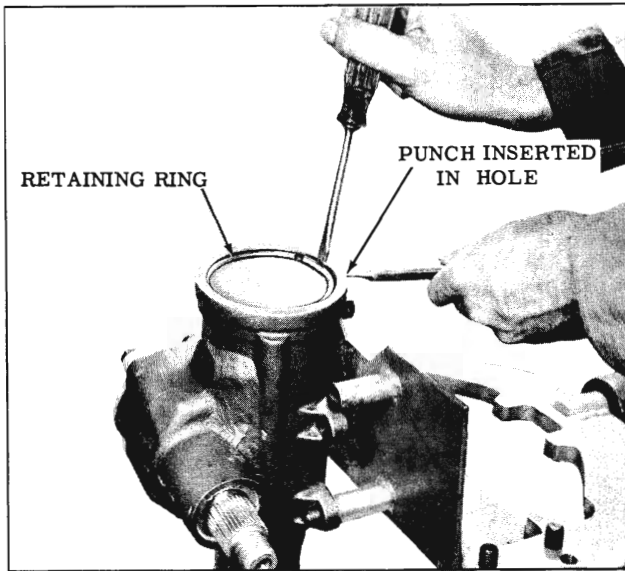

Fig. 4-42 Removing End Cover Ring
1. Rotate end cover retainer ring so that one end of the ring is over hole in side of housing then force end of ring from its groove and remove ring. (Fig. 4-42)